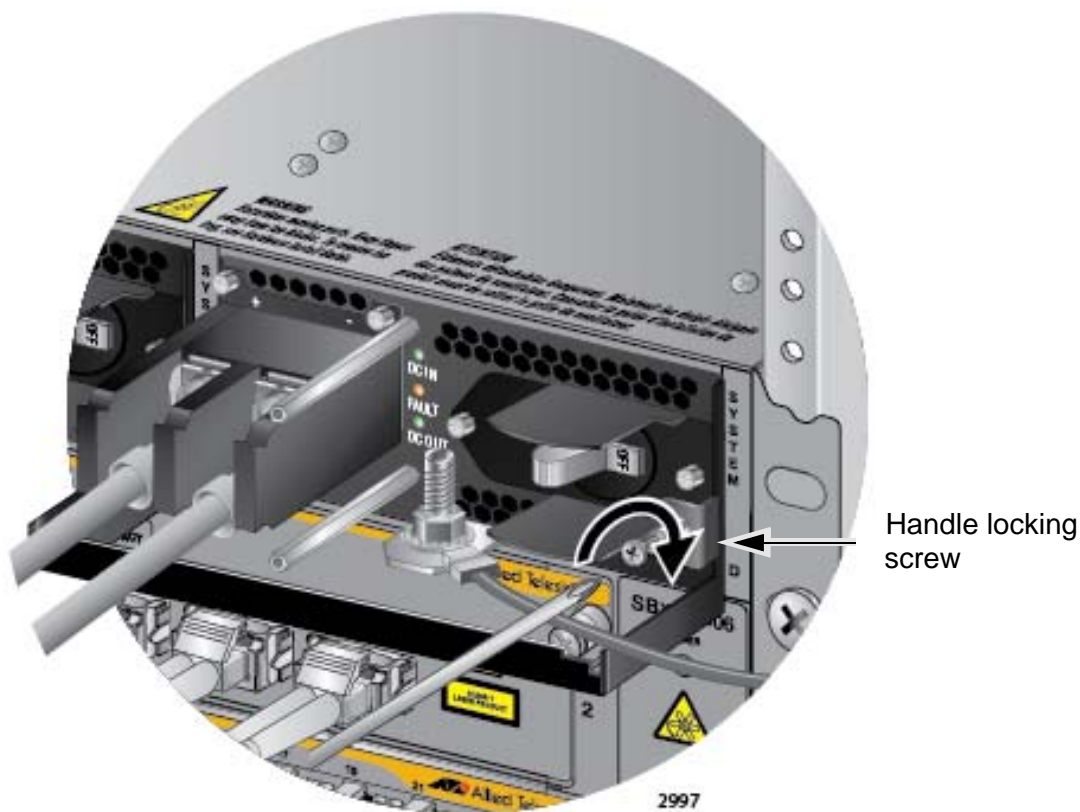

Figure 146. Tightening the Handle Locking Screw
8. With a #2 Phillips-head screwdriver, tighten the handle locking screw to secure the power supply to the chassis. See Figure 146 on page 218.